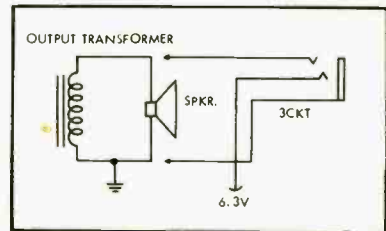
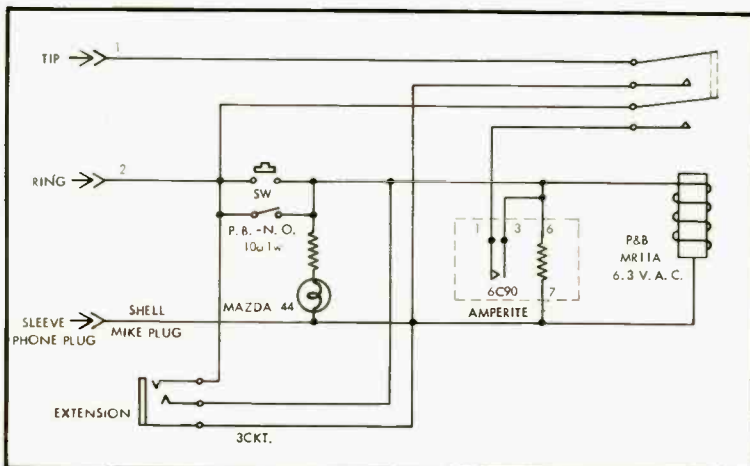

Fig. 2. Receiver connections for time-delay suppressor.
Fig. 1. Schematic of time-delay commercial suppressor.
Some study of the nature of commercials, made with a radio receiver, a stopwatch, and some blood-pressure medicine, shows that the length of the commercial at most stations is fairly constant, and seldom exceeds 80 seconds. Thus, a device which will shut off the audio output of the receiver for 80 seconds plus a margin of safety, will eliminate the major part of most commercials. Such a device is easily made from a self-holding relay, a push button, and a time-delay unit, necessary power being supplied by the receiver. The circuit of such a time-delay commercial suppressor is shown in Fig. 1 and the method of connecting this device to the receiver is shown in Fig. 2.
connection, on the rear, Fig. 5, is an Amphenol three-terminal mike fitting, terminal 3 being connected to the shell. The other end of the connecting cord, which is a two-wire shielded microphone cable, terminates in a three-circuit plug (Switchcraft #267), which engages the receiver jack (Fig. 2). The front jack, for the extension, is a narrow-gauge type (Switchcraft JJ-033) to engage a like three-circuit plug (Switchcraft P.J-068). The use of unlike connectors here is intentional, as components are not interchangeable.
Fig. 2. Amplitude compensation circuit. *e* is open-circuit output voltage of generator supplying signal to compensation circuit. *r* is internal series resistance of generator output. *C*₁ is bass pre-emphasis compensation capacitor. *C*₂ is crossover control capacitor. *R*₁ and *R*₂ provide treble boost.
Figure 2 shows a schematic of a circuit which will provide correct compensation for an amplitude sensitive pickup. In this circuit, *e* represents the audio output signal of the pickup, or a subsequent amplifier stage. With a capacitance pickup *e* comes from the associated oscillator-converter, or a subsequent stage; *r* represents the internal resistance in series with *e*. For the Weathers oscillator-converter *r* is about 45,000 ohms. *C*₁ in connection with the resistance (*r* + *R*₁ + *R*₂) provides 6-db-per-octave compensation for bass pre-emphasis. The maximum treble boost ratio *G* is equal to (*r* + *R*₁ + *R*₂) / (*r* + *R*₁), from which it follows that *R*₂ / (*r* + *R*₁) is equal to (*G* - 1). Values of this parameter for the important record-
*f*₁ = Frequency at which treble boost is half maximum. *f*₂ = Time constant for bass pre-emphasis compensation. *k* = (*r* + *R*₁) / *R*₂. *J* = √[(*G* - 1) / (1 + *G*)]. For *r*, *R*₁, *R*₂, *C*₁, and *C*₂, see Fig. 2.